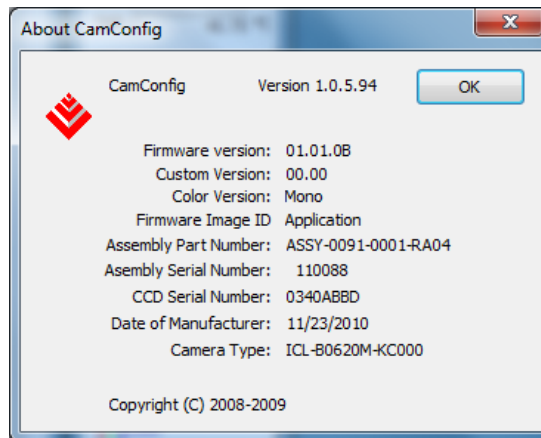

Figure 5.9 – About CamConfig.
- About:** Provides information about application version and important camera parameters such as Firmware revision, Assembly Part Number, etc. – Figure 5.9.